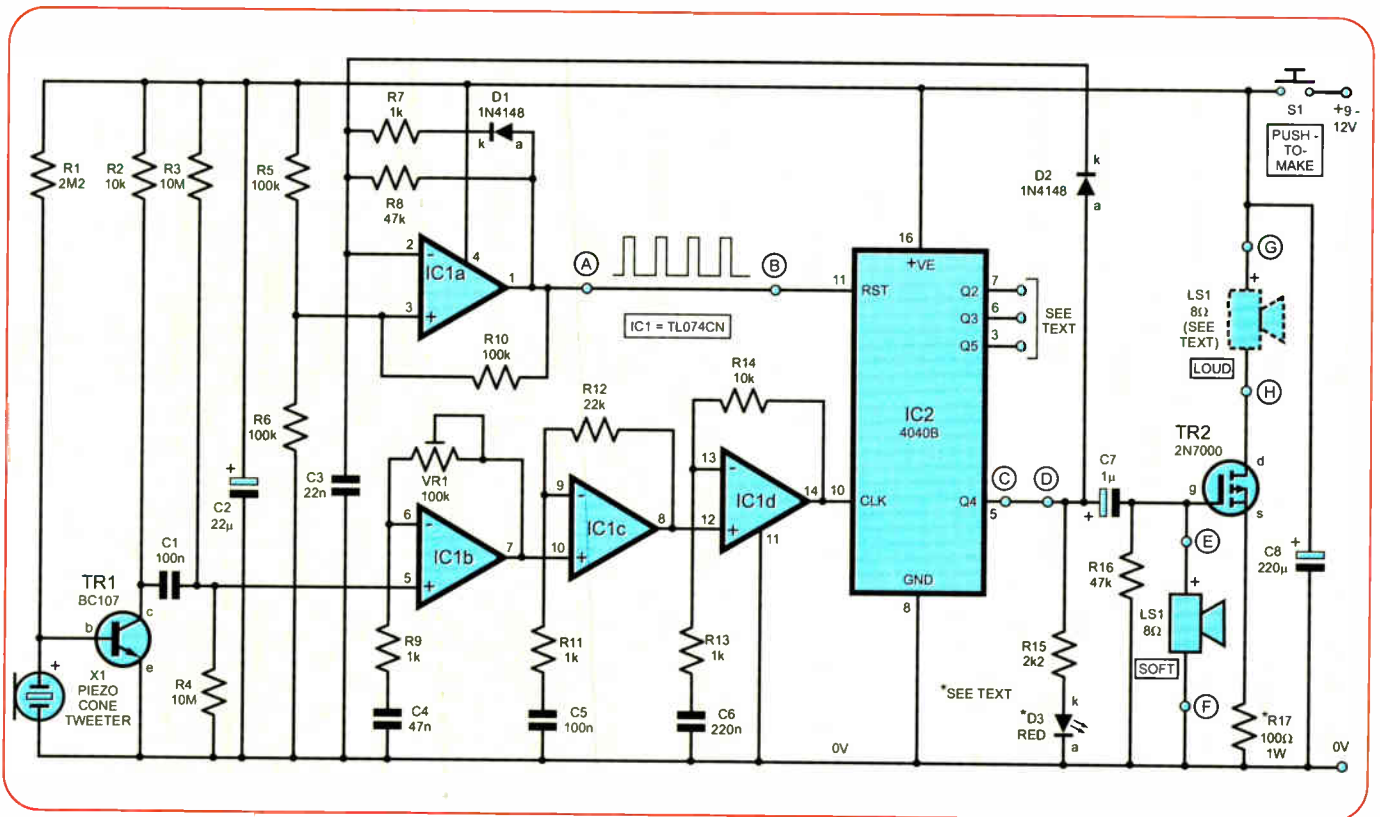
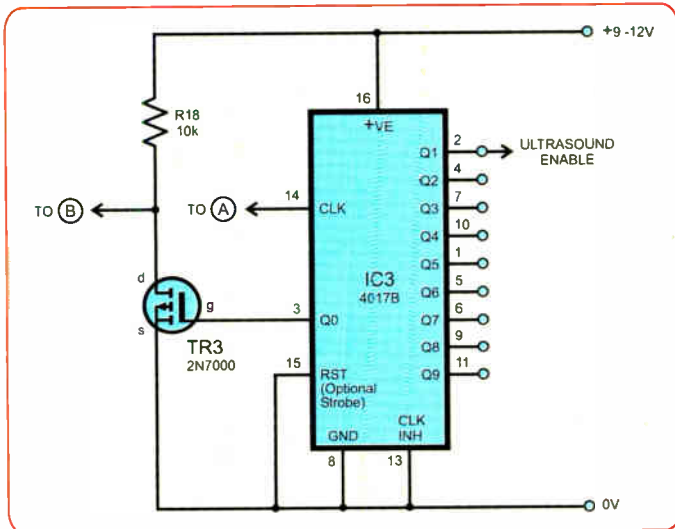

Fig.2. Complete circuit diagram for the Bat Sonar. The circled points on the circuit enable 'variations on a theme' to be undertaken as discussed in the text
Fig.3. Add-on circuit for converting to a sound sonar system
The full circuit diagram for the Bat Sonar is shown in Fig.2. The front end of the circuit is a simple, common emitter, transistor preamplifier
The Bat Sonar may be converted to a sonar system with remarkable ease (see Fig.3.). This is accomplished by simply inserting the add-on circuit of Fig.3 between points A and B (IC1a pin1 and IC2 pin11) of the main circuit (Fig.2.).
While the author successfully tested the circuit shown in Fig. 3, when tried in his workroom, it was found that the ultrasound may bounce all around the room. Ideally, the sonar would be used to detect objects blocking a clear path, e.g. boats on the water, or cars on the road. The author would suggest setting up the circuit on a clear surface with a single wall in front of one, e.g. a wall on a tennis court.
At any rate, as a start, you can easily wire up the circuit shown, and go from there. Suitable holes are provided on the printed circuit board (PCB) to make this 'a snap'. It is suggested that, instead of taking the output from IC2 output Q4 as shown in Fig. 2, this should be taken from output Q3 (Q2 and Q5 are also provided for experimentation). Output Q3 requires only eight pulses at IC2's clock input instead of sixteen, thus making reception of the return pulse less tricky. Note that the circuit board link between points A and B is omitted when IC3 is inserted into the circuit.
- 1 4017B decade counter (optional, see Fig.3.) (IC3)
- 1 2N700 *n*-channel FET (optional, see Fig.3.) (TR3)
- 1 10kΩ (optional, see Fig.3.) (R18)